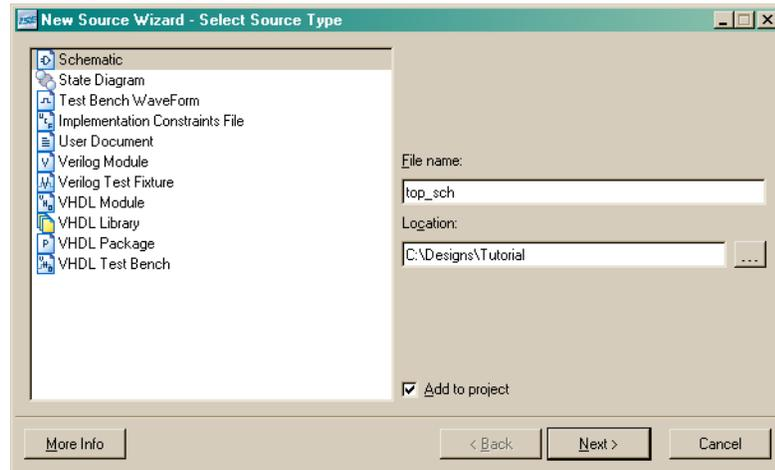

Figure 4-21: New Source Window Showing `top_sch`
- Now we need to make a schematic sheet. From the **Project** menu, select **New Source** → **Schematic** and give it the name `top_sch` as shown in Figure 4-21.